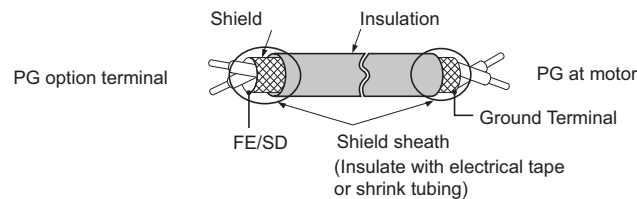
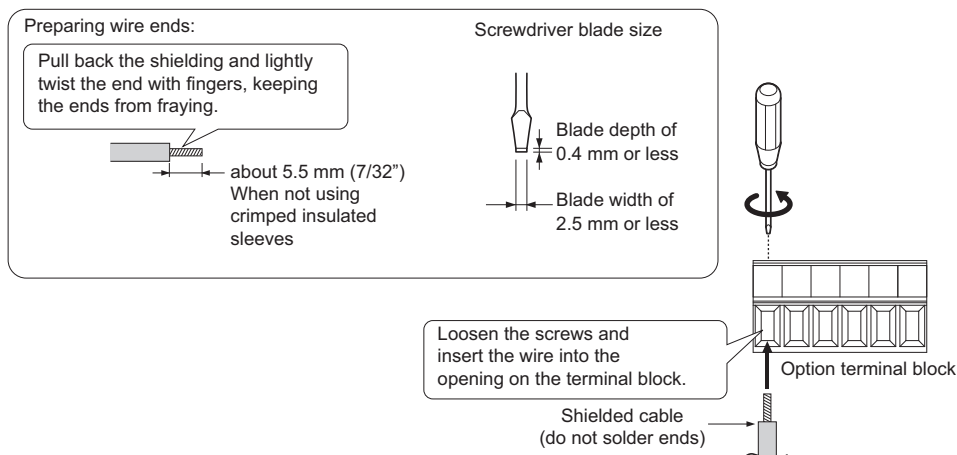

Figure 8.6 Preparing Ends of Shielded Cable
Figure 8.7 Preparing and Connecting Cable Wiring
2. There are two screw holes on the drive for use as ground terminals (H). When connecting three options, two ground wires will need to share the same drive ground terminal.
4. Prepare and connect the wire ends as shown in Figure 8.6 and Figure 8.7. Refer to Wire Gauges and Tightening Torques on page 382 to confirm that the proper tightening torque is applied to each terminal. Take particular precaution to ensure that each wire is properly connected and wire insulation is not accidentally pinched into electrical terminals.